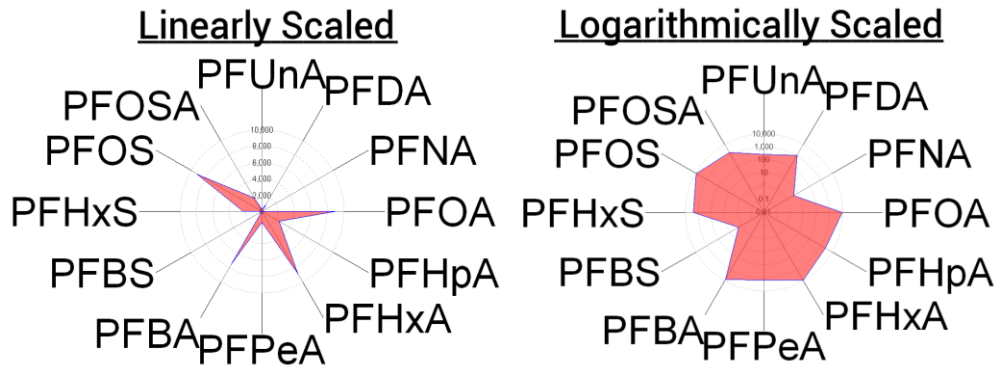

Figure 3
- The **Logarithmic Scaling** option will re-scale the component magnitudes using a log-10 conversion. This provides a way to view both the smaller and the larger values at the same time (Figure 3). Note: If the Logarithmic Scaling option is selected, the **Minimum** and **Increment** values for the **Reference Circles** will be automatically computed.